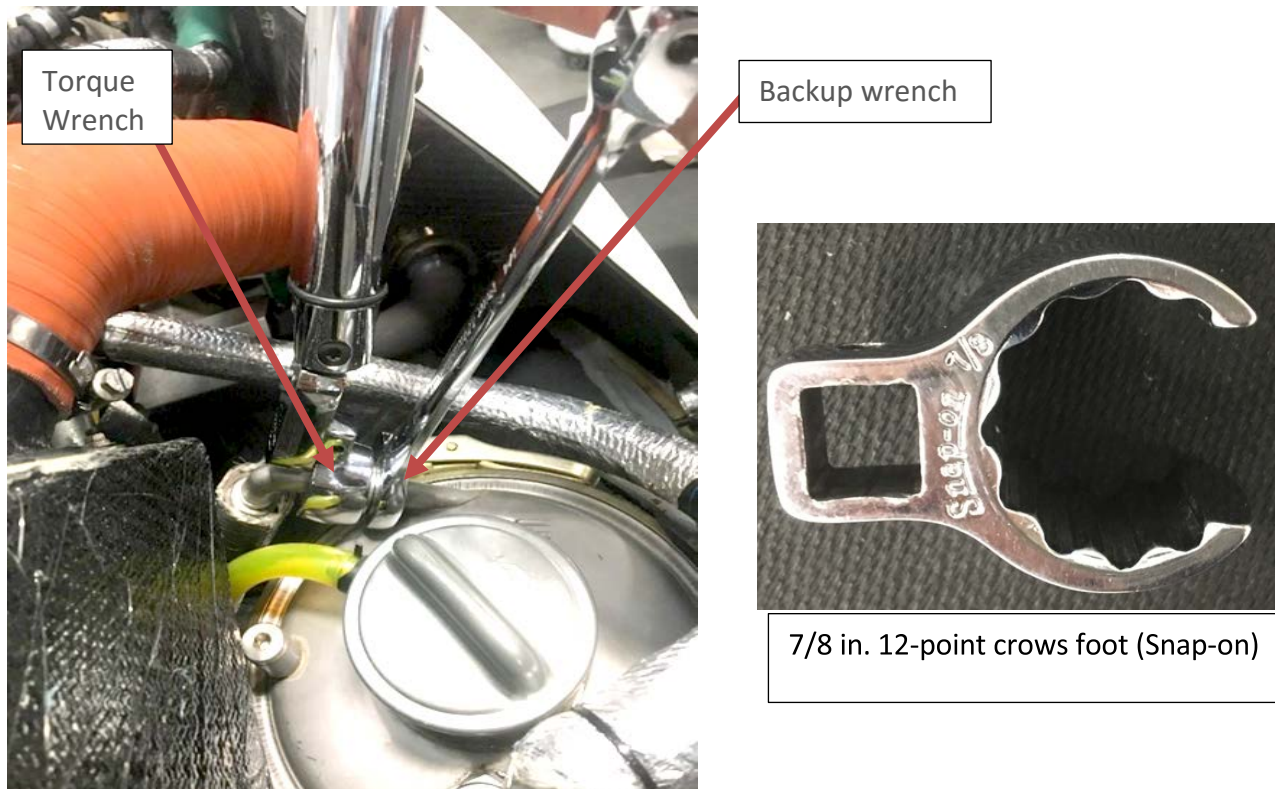

Figure 1: Engine Oil Tank return hose fitting torquing and 7/8 in. 12-point crows foot special tool
1. ____ Torque the oil tank oil return hose fitting to 300-350 in-lb. Use a back up wrench to oppose the torque as shown in Figure 1. This torquing method will require a torque offset calculation detailed in FAA Advisory Circular 43.13-1B chapter 7 Figure 7-2.